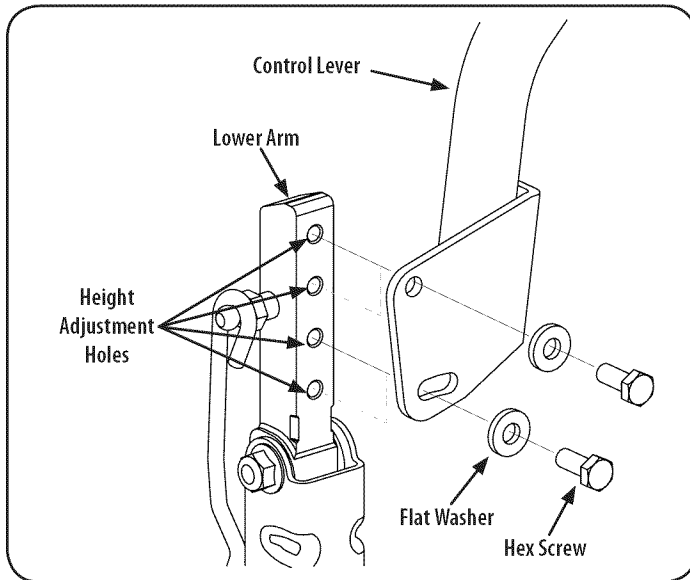

Figure 28
2. While supporting the control lever to keep it from falling, remove the hex screw and flat washer from the bottom of the control lever and lower arm. Refer to Figure 28.
1. If not already loose, loosen the hex screw and rotate the control lever either forward or rearward to the desired position. See Figure 28.